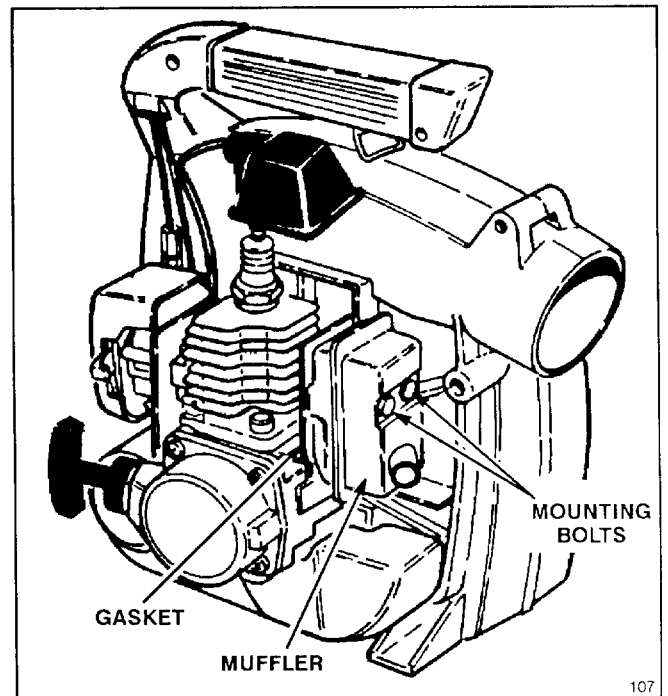

Figure 9
2. Remove two (2) bolts securing muffler and gasket to blower.
4. Rotate the engine crankshaft until the piston totally covers the exhaust port (Fig. 9).